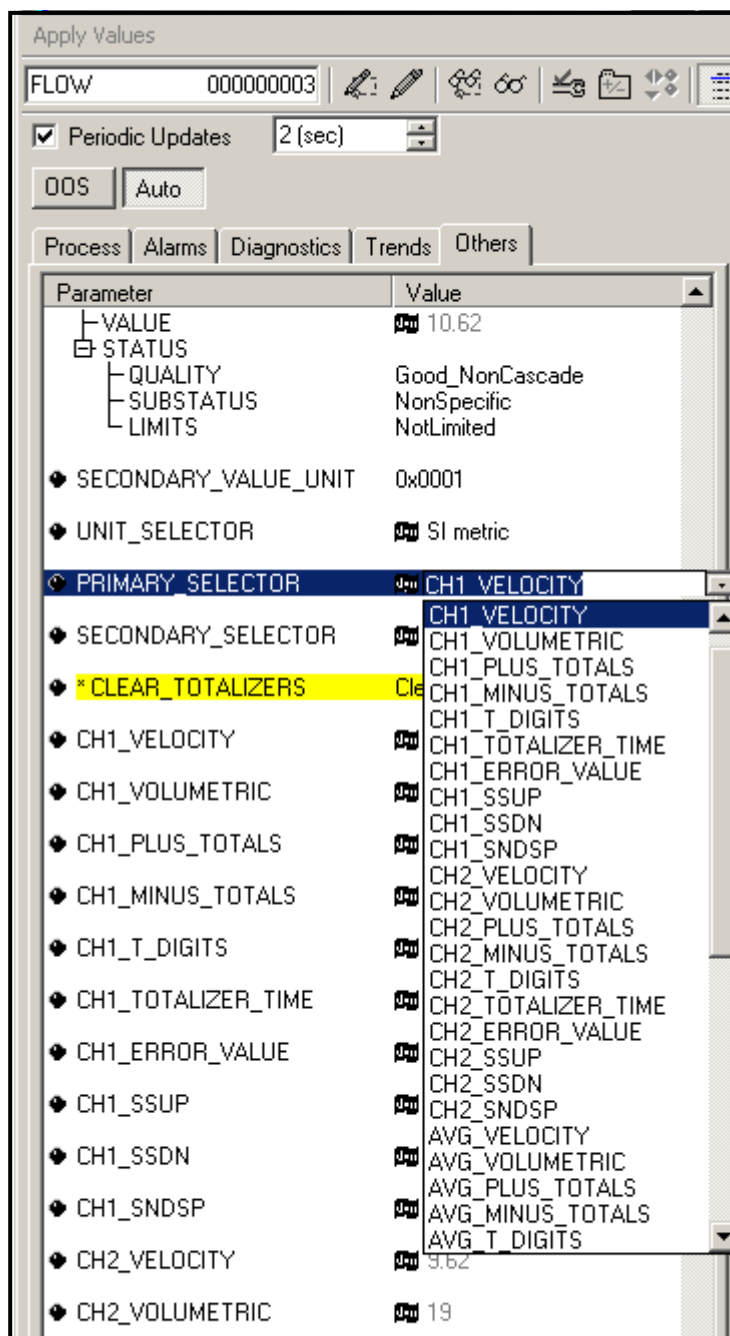

Figure 60: Primary Selector Drop Down List
2. Select the **Others** tab and open the drop down list for the PRIMARY\_SELECTOR and SECONDARY\_SELECTOR (refer to Figure 60 on page 135).
3. Choose the unit from the list (see Figure 60 on page 135).